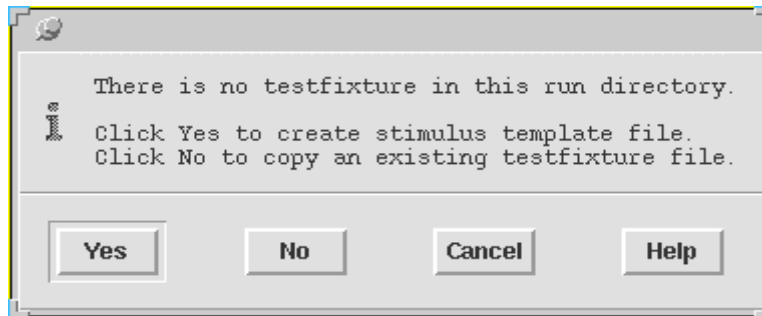

Fig 7: Dialog Box
- b. A dialog box appears as shown in Fig 7. Click **Yes** in the dialog box.